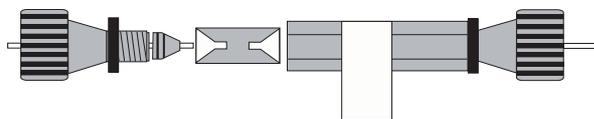

FIGURE B-10. Inserting a Cartridge into the Cartridge Holder
- c) Insert the connecting tubing. While tightening, push the tubing all the way into the holder to prevent any dead volume (FIGURE B-10).